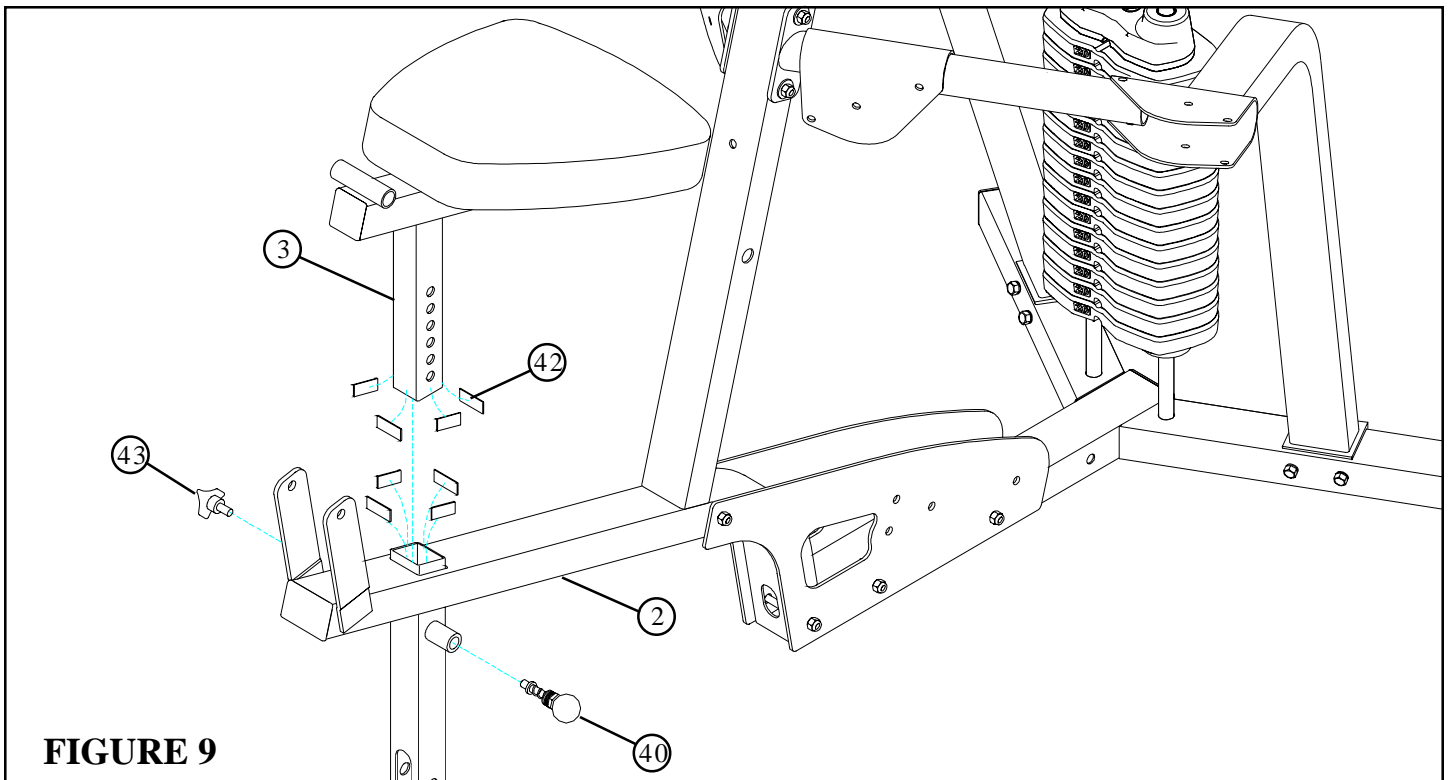

**FIGURE 8**
- **SECURELY** assemble one SEAT PAD (16) to the SEAT ADJUST (3) using two 3/8 X 2-3/4" BOLTS (55) and two 3/8" WASHERS (64). See FIGURE 8.